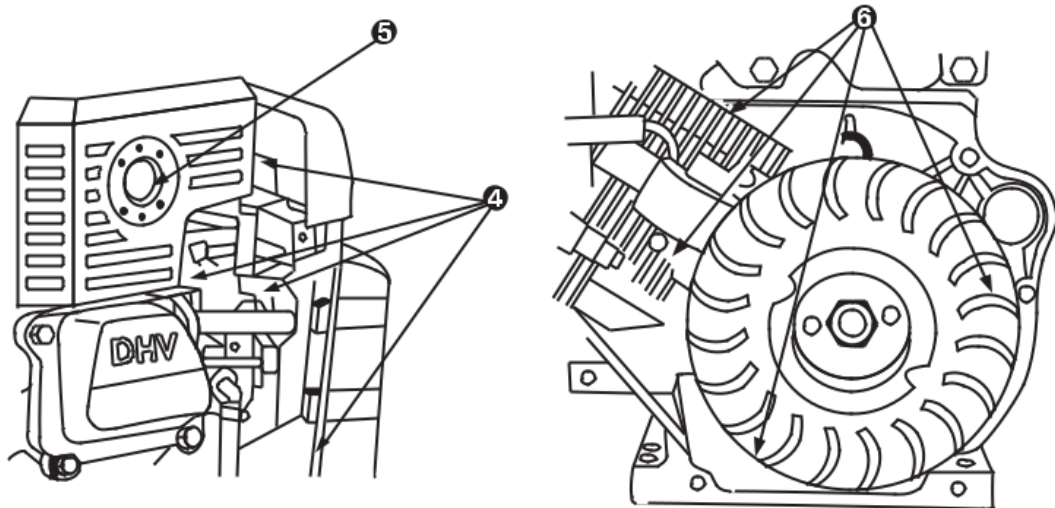

Figure 11
- \* Every 100 hours or every season, remove the starter guard and clean the area shown in **Figure 11**.